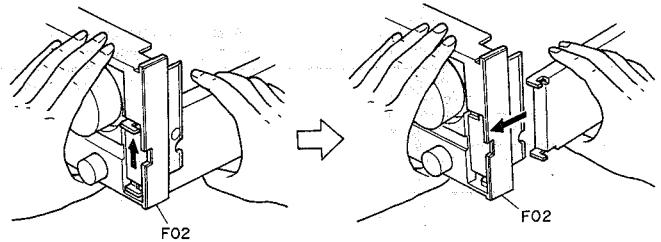

Fig. 2.5.2
- (1) Remove the Front Panel referring to item 2.2.
- (2) Remove the Power Switch P.C.B. Ass'y referring to item 2.3.
- (3) Loosen screws F01 (7 pcs.).
- (4) Lift F02 (Front Chassis Ass'y) and pull it frontward. Refer to Fig. 2.5.2.